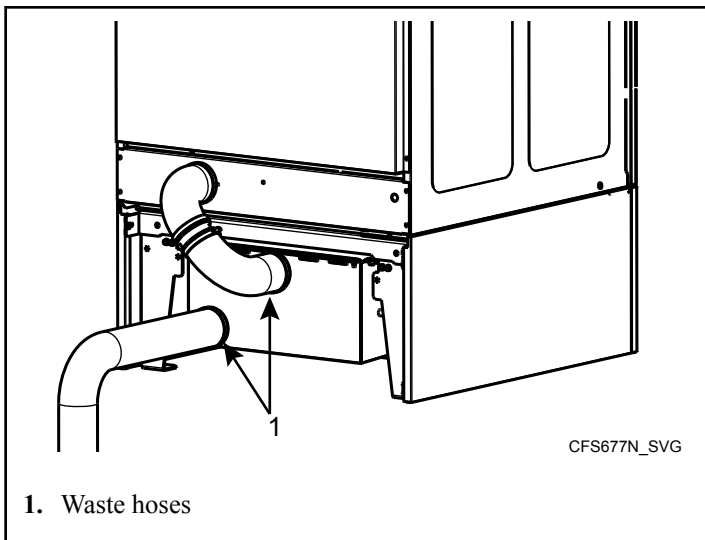

Figure 59
4. Remove the clamps and waste hoses from the filter box at the back of the machine. Refer to *Figure 59*.